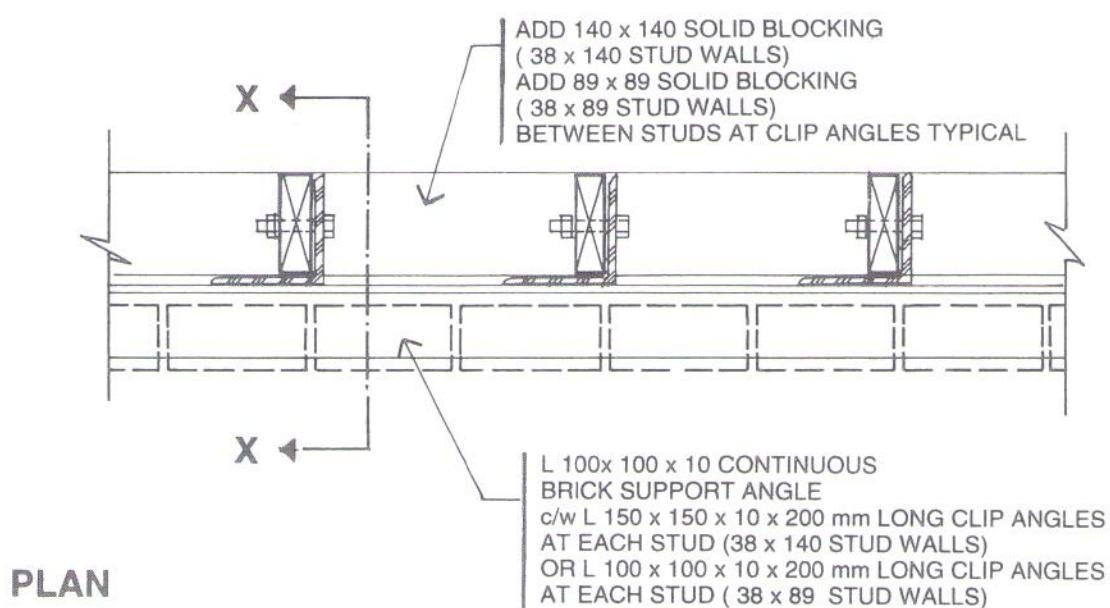

Figure 5 Alternate brick veneer supported by truss
- Figure 5 Alternate brick veneer supported by truss (typically over attached garages)